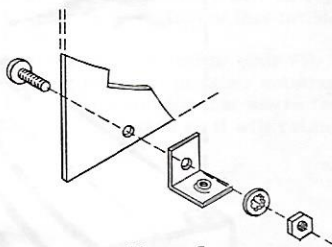
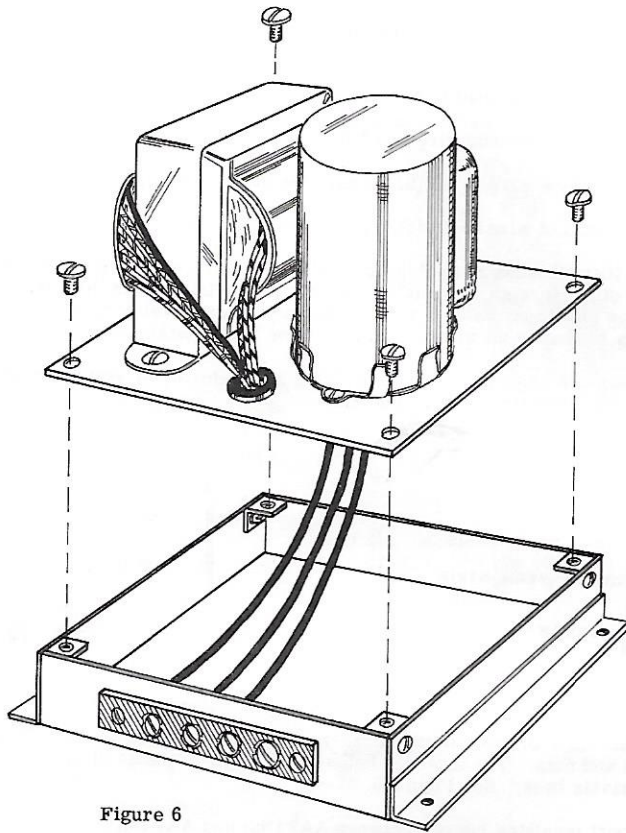

Figure 5
Figure 6
- (✓) Mount a small angle bracket at each corner of the chassis base using 6-32 x 3/16 screws, lockwashers and nuts. The threaded holes in the angle brackets should be toward the open top of the chassis base. See Figure 5.
- (✓) Connect a short insulated jumper between AA2 (NS) and AA4 (S).
- (✓) Connect the wire coming from E1 to AA1 (S).
- (✓) Connect the wire coming from E2 to AA2 (S).
- (✓) Connect the wire coming from E3 to AA3 (S).
- (✓) Place the chassis top over the chassis base as shown in Figure 6 on Page 10, stowing the wires just attached inside the base so they do not interfere with proper seating of the chassis top plate. Secure the top plate with four 6-32 x 1/4" binder head screws at the corners.